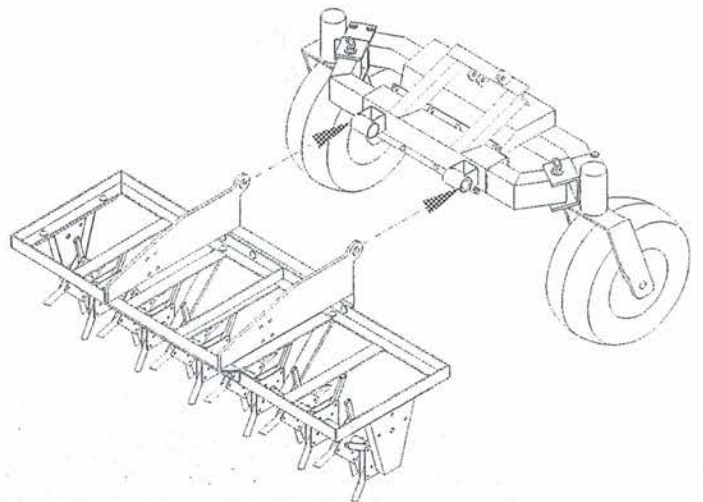

FIG. 6
6. Attach aerator to tractor mount by slipping arms of main pivot frame around the receiver tubes on half bracket and secure with 1" x 4" clevis pins and $\frac{1}{8}$ " x $1\frac{3}{4}$ " cotter pins. **FIG. 6 & 7**